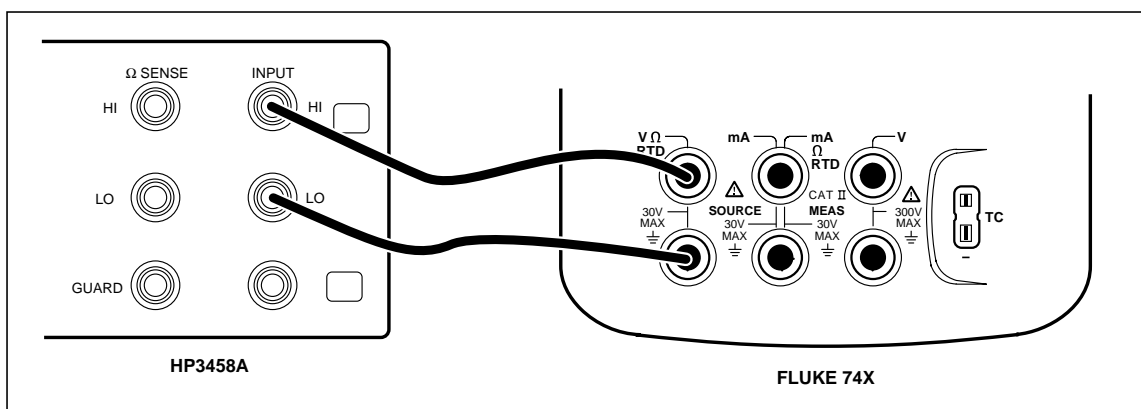

Figure 6. DC Volts Source Verification Connections
1. Connect the UUT to the HP3458A as shown in Figure 6.